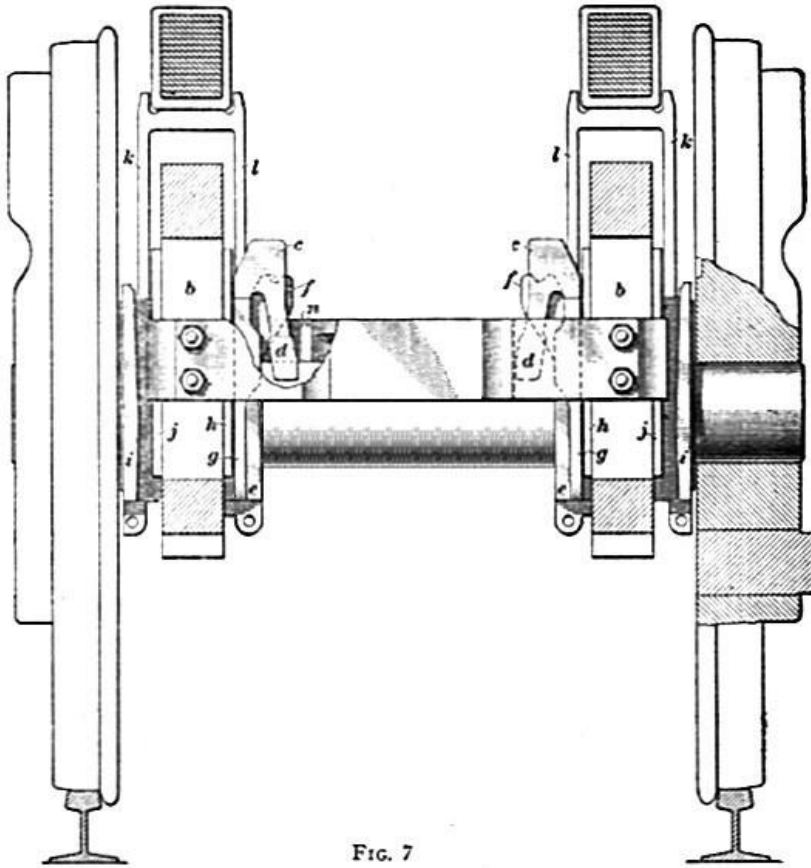

FIG. 7
11. Arrangement. — An arrangement of a lateral-motion driving box manufactured by the Franklin Railway Supply Co., Inc., is shown in figures 7 and 8 (*next page*). To make the details clear, the frame is sectioned forward of the driving boxes, and the front part of the locomotive is removed; therefore, this illustration shows a front view of the device. The arrangement consists of two crossties *a*, one bolted to the pedestals *b* in front of the driving boxes, and the other to the pedestals at the rear of the driving boxes, and two rockers *c*, hung on the driving boxes, with the lower ends *d* extended down into recesses in the crossties *a*. The driving boxes *e* are the same as ordinarily used, with the exception that two lugs *f* are cast on each one to carry the rockers *c*. The flanges *g* on the inside of the box are in contact with sides *h* of the shoe, but on the outside a space of 3/4 inch exists between the flanges *i* of the boxes and the sides *j* of the shoes. One leg *k* of the spring saddles rests on the driving boxes, and the other leg *l* rests on the rockers *c*. Lubrication is applied to the bearing surfaces of the rockers through the cavities *m*.
Editor's Disclosure: Figures 7 through 10 each had a website watermark (*see right*) placed on them to prevent copyright infringement (not applicable here since MLS is a non-profit organization, data used for education only, and cited). Most drawings were symmetrical, so I was able to copy the opposite side to remove the watermark. However, the 3D drawing in figure 8 was more difficult to Photoshop, since the watermark was in the same shades of grey as the drawing. Because I could not see past the watermark (under, if you prefer) to distinguish the parts in the central interior, I used my training in Mechanical Drawing to guesstimate the shape of those parts. The original is included in the blue border, so that the readers who need more accuracy can maybe see more correct detail than I was able to offer.
clearance of 3/4 inch at the driving boxes is prevented by the rockers. For example, in figure 7, if the frame begins to move to the left so as to take up the clearance between *i* and *j*, at the left wheel, the part *n* of the crossie would strike the part *d* of the rocker. The movement would be arrested because the weight on the leg *l* of the spring saddle would prevent the rocker from tilting.